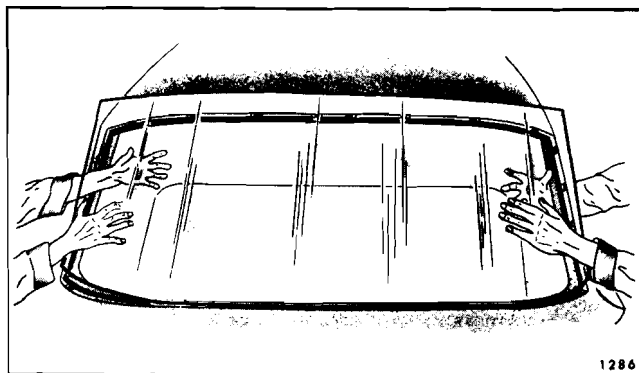

Fig. 4-7—Glass Installation
8. With the aid of a helper, lift glass into window opening. On back window installations it will be necessary to use suction cups to position glass in opening. On windows with narrow body pillars at the side edges of glass, the glass can be positioned without the aid of carrying devices. As shown in Figure 4-7, carry glass with one hand on inside of glass and one hand on outside. At the window opening, put glass in horizontal position. While one man holds glass in this position, the second man can reach one arm around the body pillar and support the glass while the other man assumes the same position.
6. With the aid of a helper, lift glass into window opening. On back window installations it will be necessary to use suction cups to position glass in opening. On windows with narrow body pillars at the sides, the glass can be positioned without the aid of carrying devices as described in step 7 and shown in Figure 4-7.